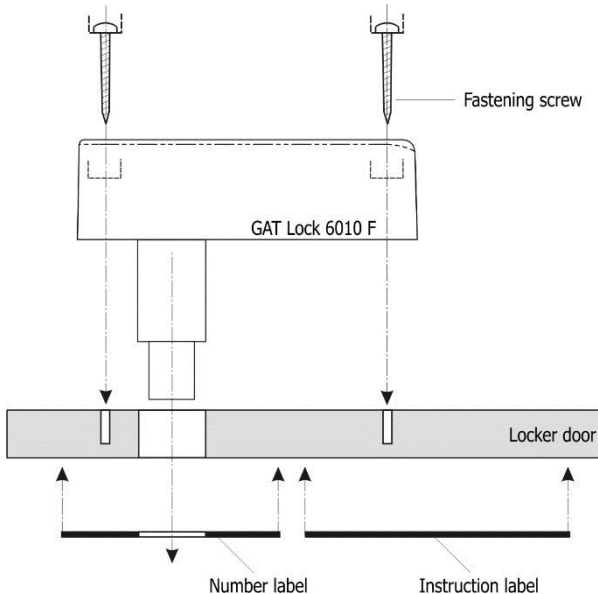

Figure 2.12 – Attachment of the GAT Lock 6010 F
NOTICE	Don't use metallic number labels (see Figure 2.12). Those labels will decrease the reading range to the same reading ranges and restrictions as for metallic doors!
- 4.) Screw the housing of the GAT Lock 6010 F in place using four fastening screws (see Figure 2.12).
- 5.) Stick number label and instruction label on the door (see Figure 2.12).